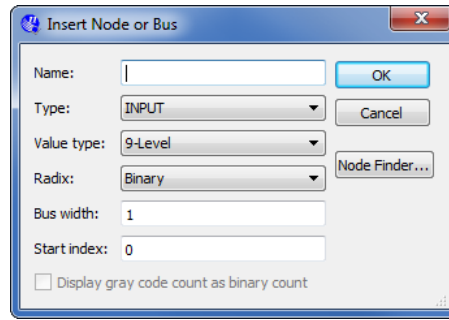
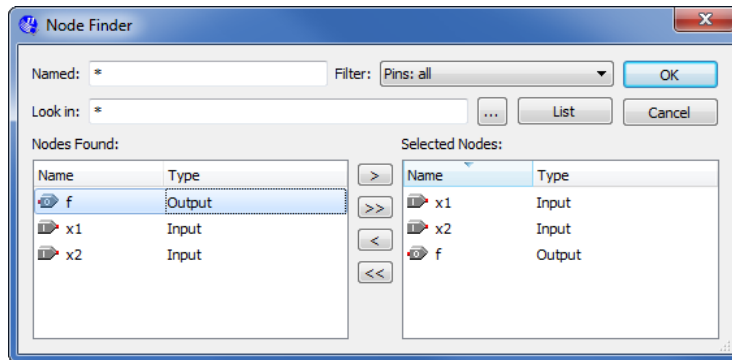
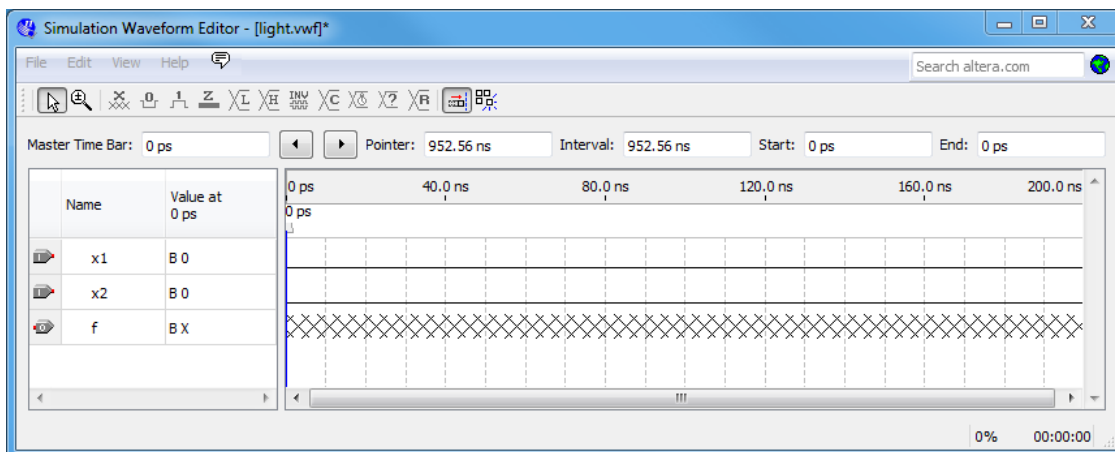

Figure 33. The Insert Node or Bus dialogue.
Figure 34. Selecting nodes to insert into the Waveform Editor.
Figure 35. The nodes needed for simulation.
- Next, we want to include the input and output nodes of the circuit to be simulated. Click **Edit > Insert > Insert Node or Bus** to open the window in Figure 33. It is possible to type the name of a signal (pin) into the Name box, or use the Node Finder to search your project for the signals. Click on the button labeled **Node Finder** to open the window in Figure 34. The Node Finder utility has a filter used to indicate what type of nodes are to be found. Since we are interested in input and output pins, set the filter to **Pins: all**. Click the **List** button to find the input and output nodes as indicated on the left side of the figure.
Click on the *x1* signal in the Nodes Found box in Figure 34, and then click the > sign to add it to the Selected Nodes box on the right side of the figure. Do the same for *x2* and *f*. Click OK to close the Node Finder window, and then click OK in the window of Figure 33. This leaves a fully displayed Waveform Editor window, as shown in Figure 35. If you did not select the nodes in the same order as displayed in Figure 35, it is possible to rearrange them. To move a waveform up or down in the Waveform Editor window, click within the node's row (i.e. on its name, icon, or value) and release the mouse button. The waveform is now highlighted to show the selection. Click again on the waveform and drag it up or down in the Waveform Editor.